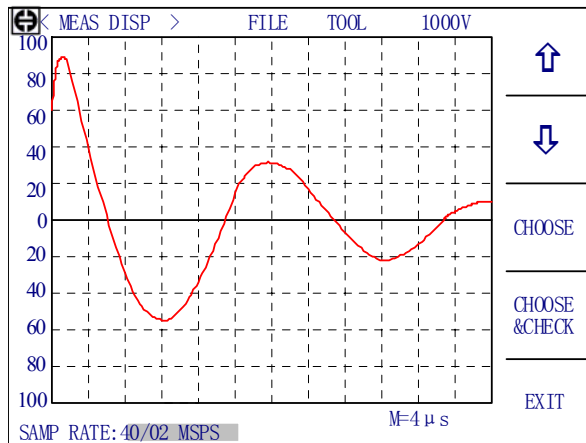

Figure 4-9 Standard waveform sample-ONE CYCLE
2. ONE CYCLE mode: Press the **START** button or the **STD WAVE SAMPLE** soft key, the instrument will sample standard waveforms for all sample rates without interval. The message-TESTING will be displayed on the center of the screen and user can press the **MEAS ABORT** soft key to terminate the standard waveform measurement. After sampling, the page as figure 4-9 shown will be displayed for user to operate. The soft keys available are as follows.